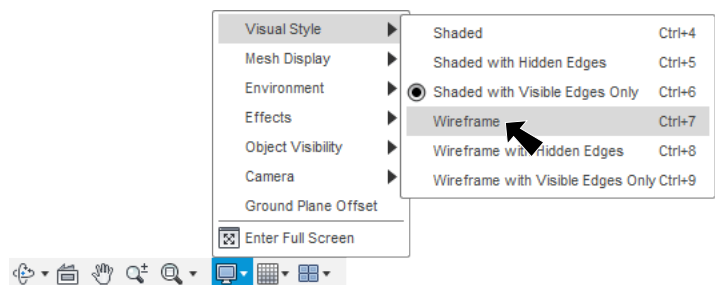

Fig. 8
Step 14. Switch Visible Style to **Wireframe** (**Ctrl-7**). To switch to Wireframe, click the Display Settings  pull-down in the Navigation Bar at the bottom of the canvas and select **Visual Style > Wireframe**, **Fig. 8**.